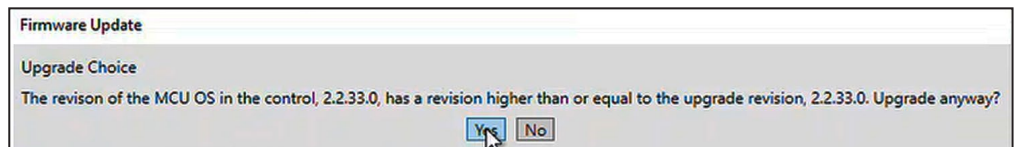

Figure 20. The MCU OS revision dialog box.
**STEP 9.** The Firmware Update dialog box may ask about the MCU OS revision. Click on the **Yes** button if this dialog box appears. See Figure 20.